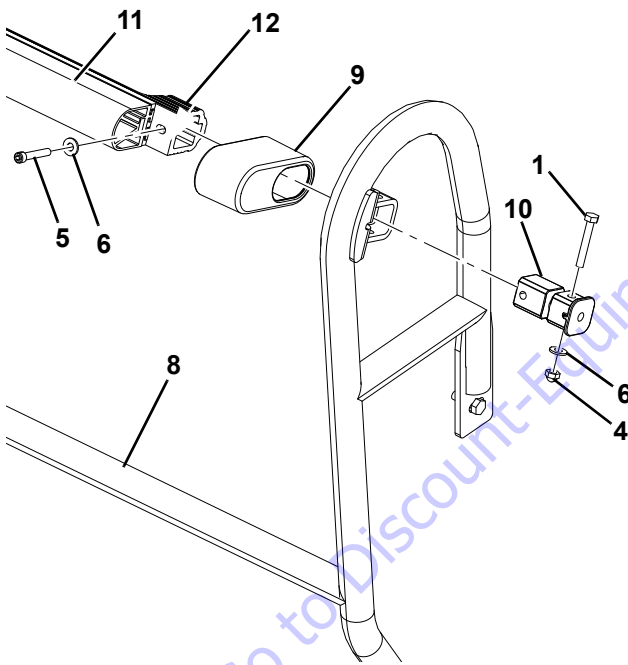

Figure 4-17.
4. Position SkyGuard switch assembly with sensor cover onto the SkyGuard Support Bracket (8) as shown in Figure 4-17..
5. Insert a Shear Block Support (10) through shear block housing on the SkyGuard support bracket and into the platform sensor mount. See Figure 4-17.
**NOTE:** Ensure the correct position of Shear Block Support (10) before installation.
6. Secure the shear block on welded mount of SkyGuard support bracket using Bolt (1), relevant Washer (6) and Acorn Nut (4) as shown in Figure 4-17.
7. Secure the SkyGuard switch assembly using Bolt (5) and relevant Washer (6) on platform sensor mount. See Figure 4-17.
**NOTE:** Tighten the Bolt (5) using appropriate allen wrench.
WHEN THE SKYGUARD IS PUSHED WITH EXCESSIVE FORCE THE SENSOR SUPPORTS (ITEM 10 - FIGURE 4-17.) WILL BREAK. REPLACE WITH NEW SENSOR SUPPORTS BEFORE CONTINUING OPERATION OF THE MACHINE.